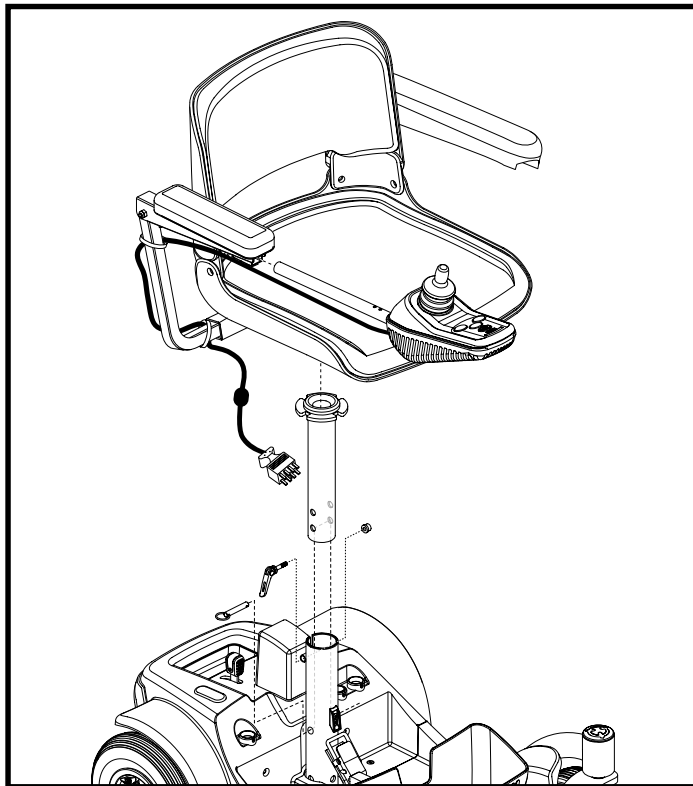

Figure 9. Seat Installation
2. Set the seat onto the seat pedestal. See figure 9.